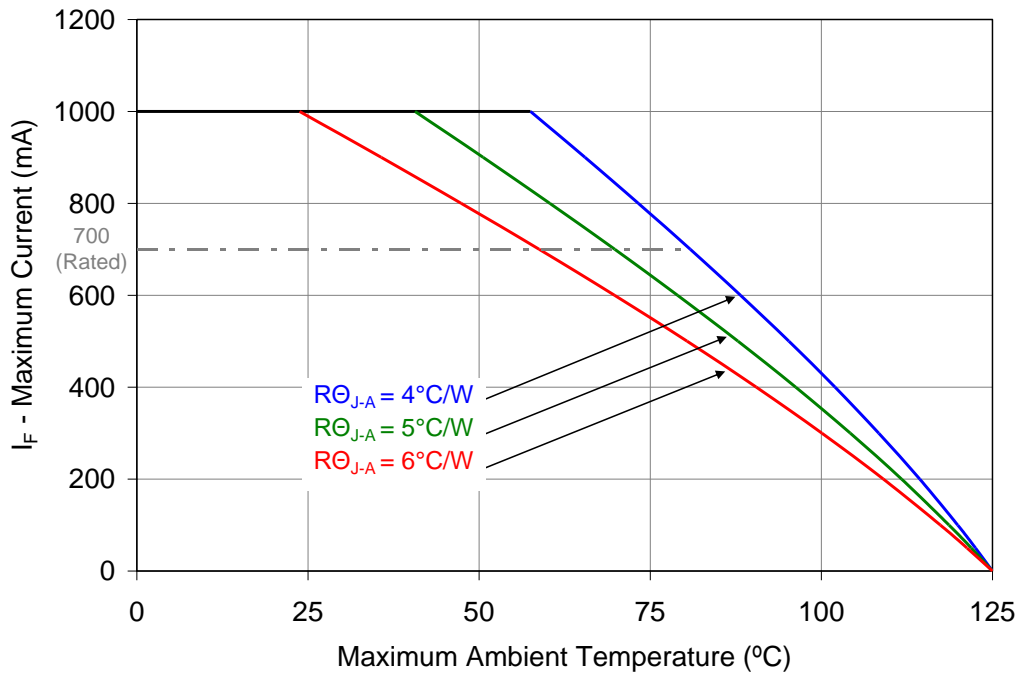

Figure 10: Maximum forward current vs. ambient temperature based on TJ(MAX) = 125°C.
- Maximum DC forward current is determined by the overall thermal resistance and ambient temperature. Follow the curves in Figure 10 for current derating.
Notes for Figure 10: